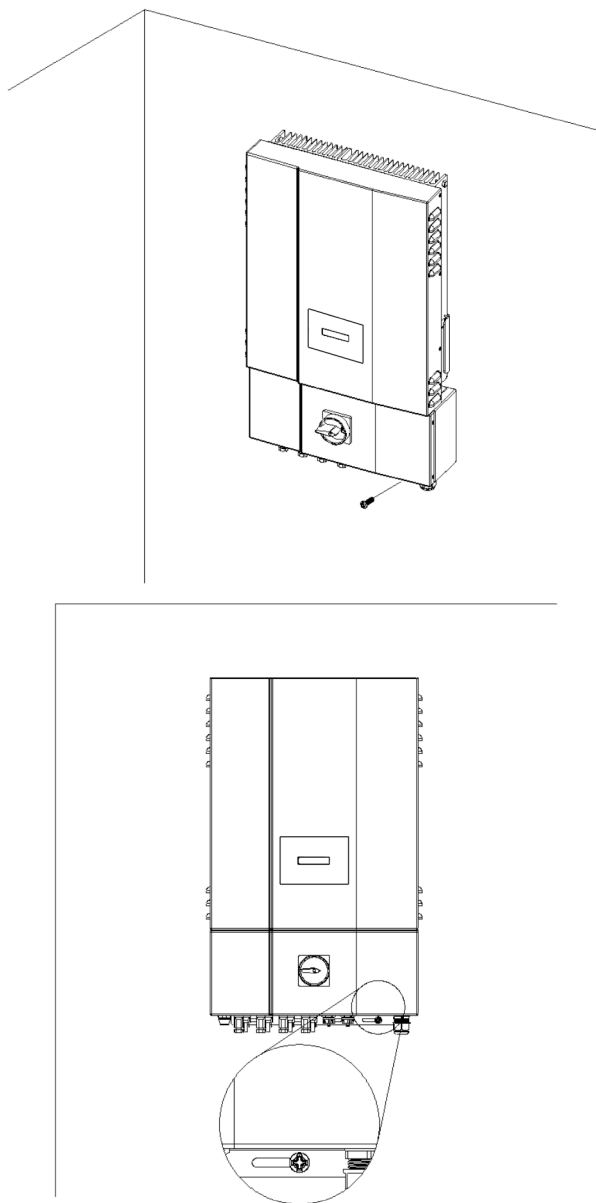

Fig 2.2.4 Hook the Inverter on the mounting bracket and then fasten the screw
3. Once the mounting bracket is fixed to the wall, the inverter can be located and fastened to the mounting bracket. Slide the inverter over the mounting bracket flanges let it slide down slowly until it is hooked in place. Put the provided screw through the hole, as shown in figure 2.2.4 below, in order to fasten both inverter and the wiring box together to the mounting bracket.